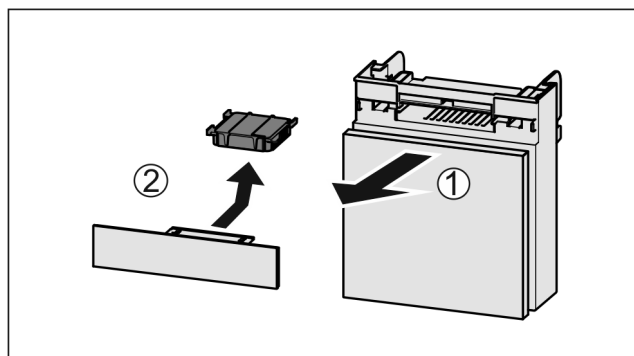

Fig. 123
- Pull out the compartment Fig. 123 (1).
- Remove the carbon filter Fig. 123 (2).